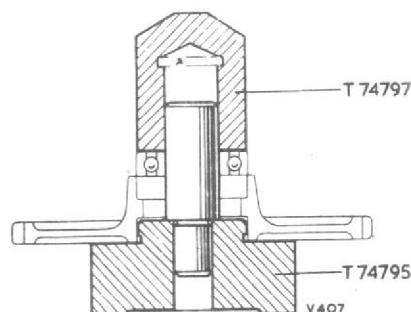

Fig. 1. Pressing the first ball bearing into the idler gear
- (2) Assemble one of the two ball bearings over the guide mandrel followed by adapter T74797 and press the ball bearing into position (fig. 1).
- (3) Invert the gear on the press block.